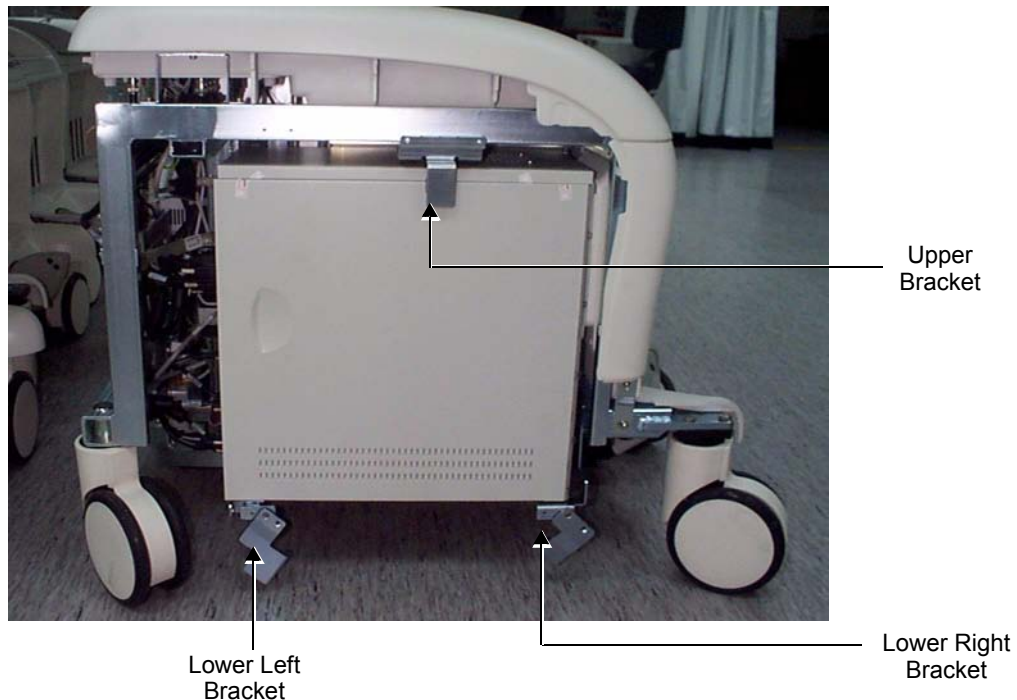

Figure 8-54 BEP - Position of Brackets on BEP2 Models
- a.) Remove the two screws of *upper* BEP bracket, see Figure 8-54 below.
- b.) Remove the screws of the *lower* left and *right* BEP brackets (Figure 8-54).